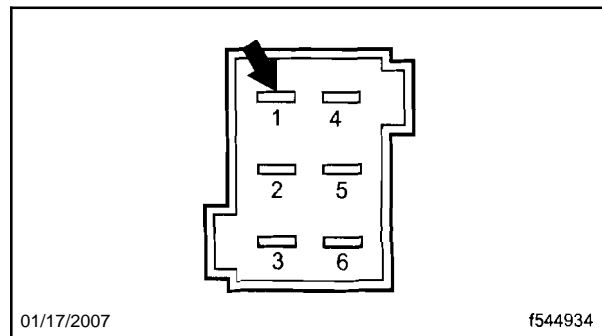

Fig. 11, A16X2 Connector
4. Prepare a 16-gauge white wire, that is long enough to reach from the GS control unit to the new relay, then attach a small terminal for connector A16X2. Using a small screwdriver, unlock connector A16X2 and insert the wire into Cavity 1. See **Fig. 11**.